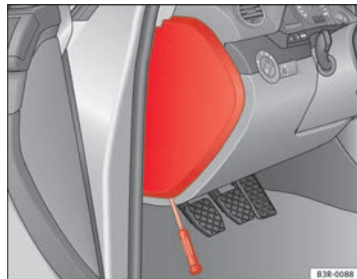

Fig. 202 Left side of dash panel: Fuse box cover
- Remove the fuse cover using a screwdriver ⇒ fig. 202.